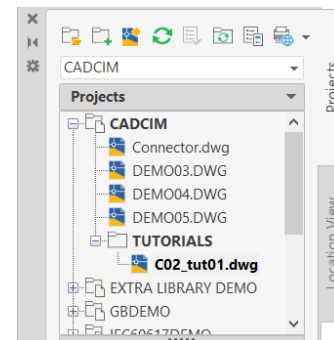

Figure 2-70 The *C02_tut01.dwg* moved to the **TUTORIALS** subfolder
3. Drag and drop the *C02_tut01.dwg* drawing created in Tutorial 1 on the **TUTORIALS** subfolder; the *C02_tut01.dwg* drawing is moved to the **TUTORIALS** subfolder, refer to Figure 2-70.